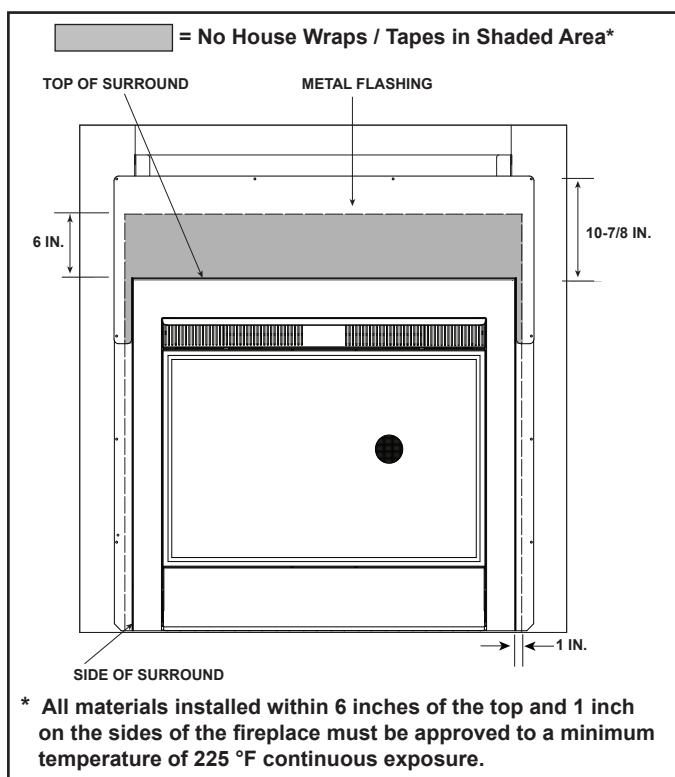

Figure 5.5 Outside View without Non-Combustible Sheathing Shown
For placement of combustible housewrap or building paper and non-combustible sheathing for the outside wall see Figures 5.5 and 5.6.
* **NOTE:** All finishing materials on top of exterior sheathing must be non-combustible for a minimum of 10-7/8 inches above and 2-3/4 inches on both sides of the exterior face of the appliance. This non-combustible finishing material can be up to a maximum of 6 inches thick (6 inches maximum horizontal overhang) to allow for brick and stone alcoves (see Figure 5.5).